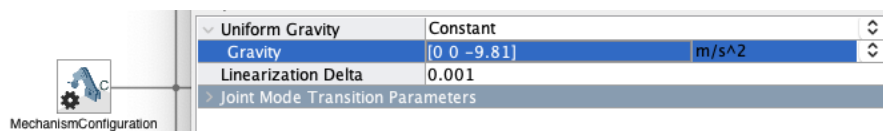

Figure 21: Gravitational Setting
13. Open the “Mechanism Configuration” block and change gravity to apply in the -Z direction. It must be entered in as [ 0 0 -9.81] in the “Gravity” field. Figure 21 shows how this should look.